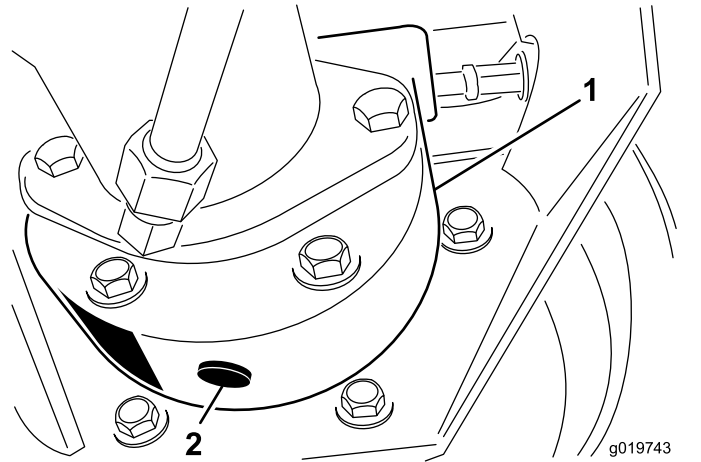

Figure 92
4. Place a drain pan under the brake housing, remove the drain plug, and allow the oil to drain (Figure 92).